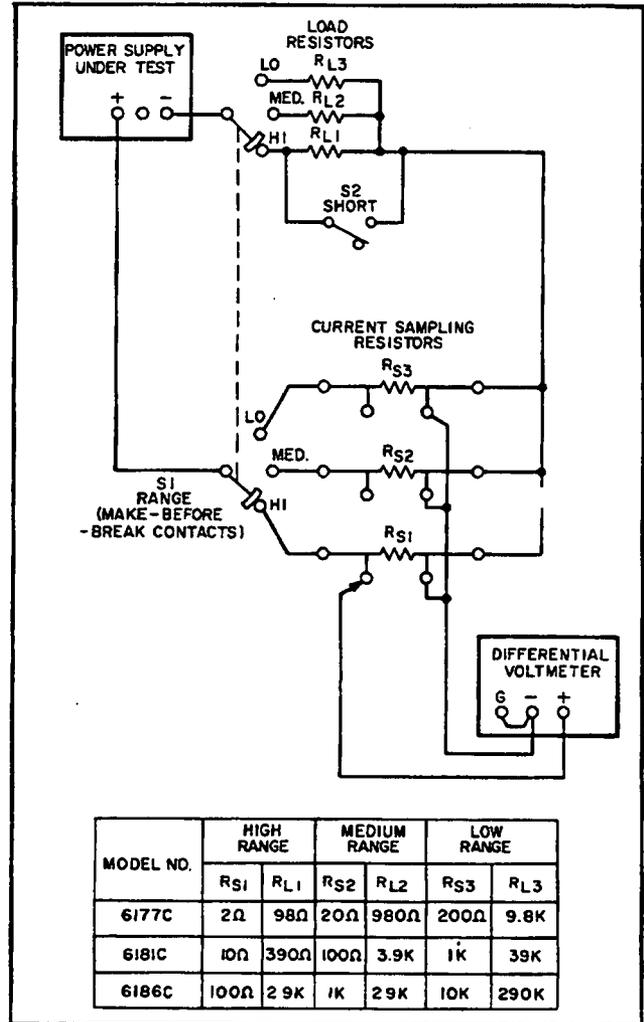

Figure 5-3. Output Current Test Setup
5-9 The monitoring device is connected across the sampling resistors as shown in Figure 5-3. As indicated in this illustration neither output terminal of the power supply is grounded and the measuring device case is connected to the junction of the load and sampling resistors. This arrangement prevents ground loop paths and shunt current paths. Notice that shunt resistance paths between the external switches and ground can exist. However, since the shunt resistance appears across only one of the external resistors and not across the entire output terminals of the supply, the performance of the supply is not degraded.
- a. Connect test setup shown in Figure 5-3, leaving switch S2 open throughout test.
- a. Connect test setup of Figure 5-3 except connect the differential voltmeter between the guard (terminal A0) and - output terminals (see Figure 3-7 for voltmeter connections).
- a. Connect test setup shown in Figure 5-3.
- a. Utilize test setup shown in Figure 5-3, except connect variable auto-transformer between input power source and power input to supply. Leave switch  $S_2$  open throughout test.
- a. Use test setup of Figure 5-3, except connect ac voltmeter across sampling resistors instead of differential voltmeter. Ensure that power supply output is floating to avoid ground loops.